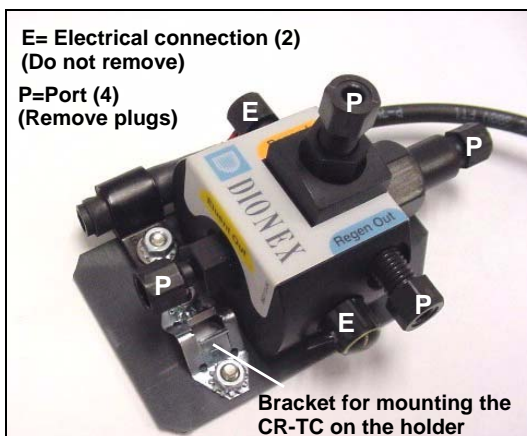

Figure B-33. CR-TC
2. Before installing the CR-TC, note the metal ball stud inside the bottom of the cartridge holder (see Figure B-32) and the bracket on the CR-TC mounting plate (see Figure B-33). These are used to mount the CR-TC inside the holder after it is plumbed.
3. Remove the plugs from the four ports, labeled “P” in Figure B-33. Do not remove the two electrical connections, labeled “E” in the figure.